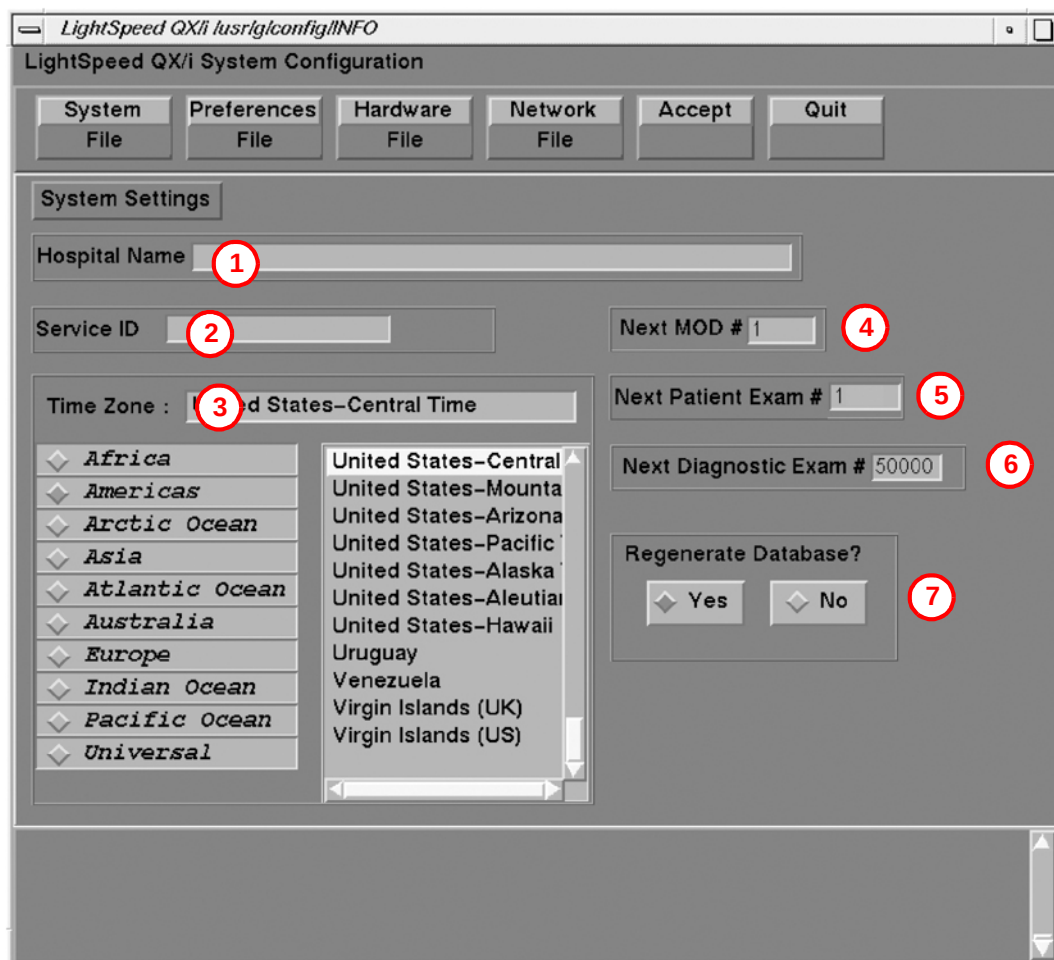

Figure 6-13 System Settings Screen
The OC displays the HiSpeed QX/i System Configuration - System Settings Screen as shown in Figure 6-13.
- a.) Hospital Name (Figure 6-13, item 1) configures the name that will show up on images produced by this scanner. *Example:* ST MARYS HOSPITAL
- b.) Service ID (Figure 6-13, item 2) is issued by the Service organization.
- 6.) Regenerate Database (refer to Figure 6-13) determines whether the Scan Database will be regenerated during reconfiguration.